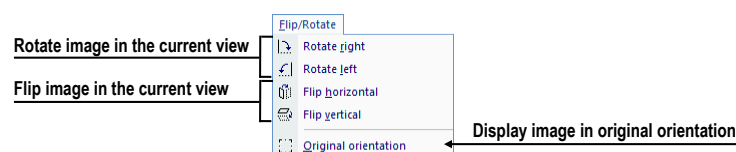

Figure 40 – Flip/Rotate menu
- **Flip/Rotate** – flipping and rotating the image in the current view (see Figure 40).